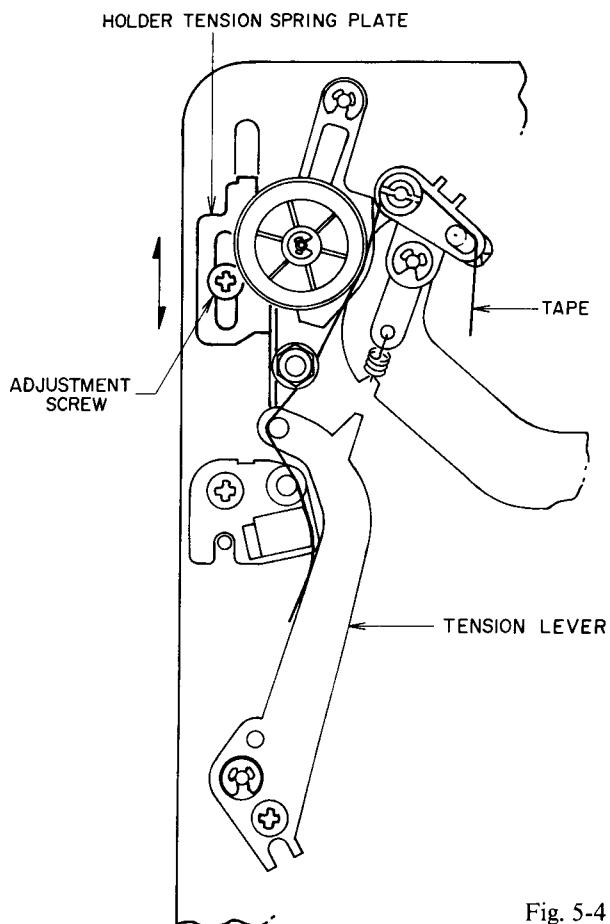

Fig. 5-4
(Refer to Figs. 5-4, 5-5)**
- 3) Loosen the adjustment screw shown in Fig. 5-4, adjust the Tension spring Holder plate so that back tension will be  $28 \pm 5$ gf-cm, and tighten the adjustment screw.